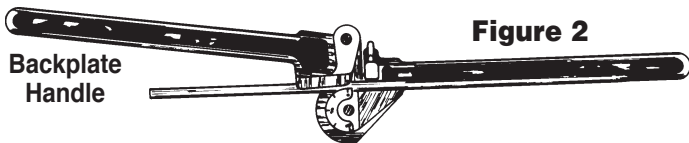

Figure 2
3. Rotate backplate handle until contact is made with tubing, and the calibration marks align at zero. See Fig. 2.